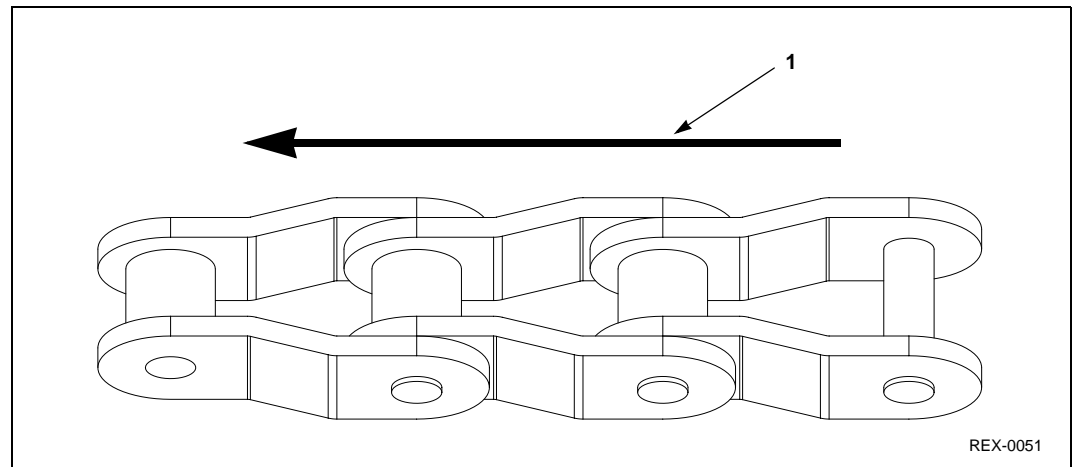

Figure 4-52:
2. Before placing chain on the sprockets make sure that the chain is oriented in the proper direction. Straight sidebar roller chain does not have a preferred direction. All steel offset sidebar drive chain with rollers should travel with the closed end forward. See Figure 4-52.